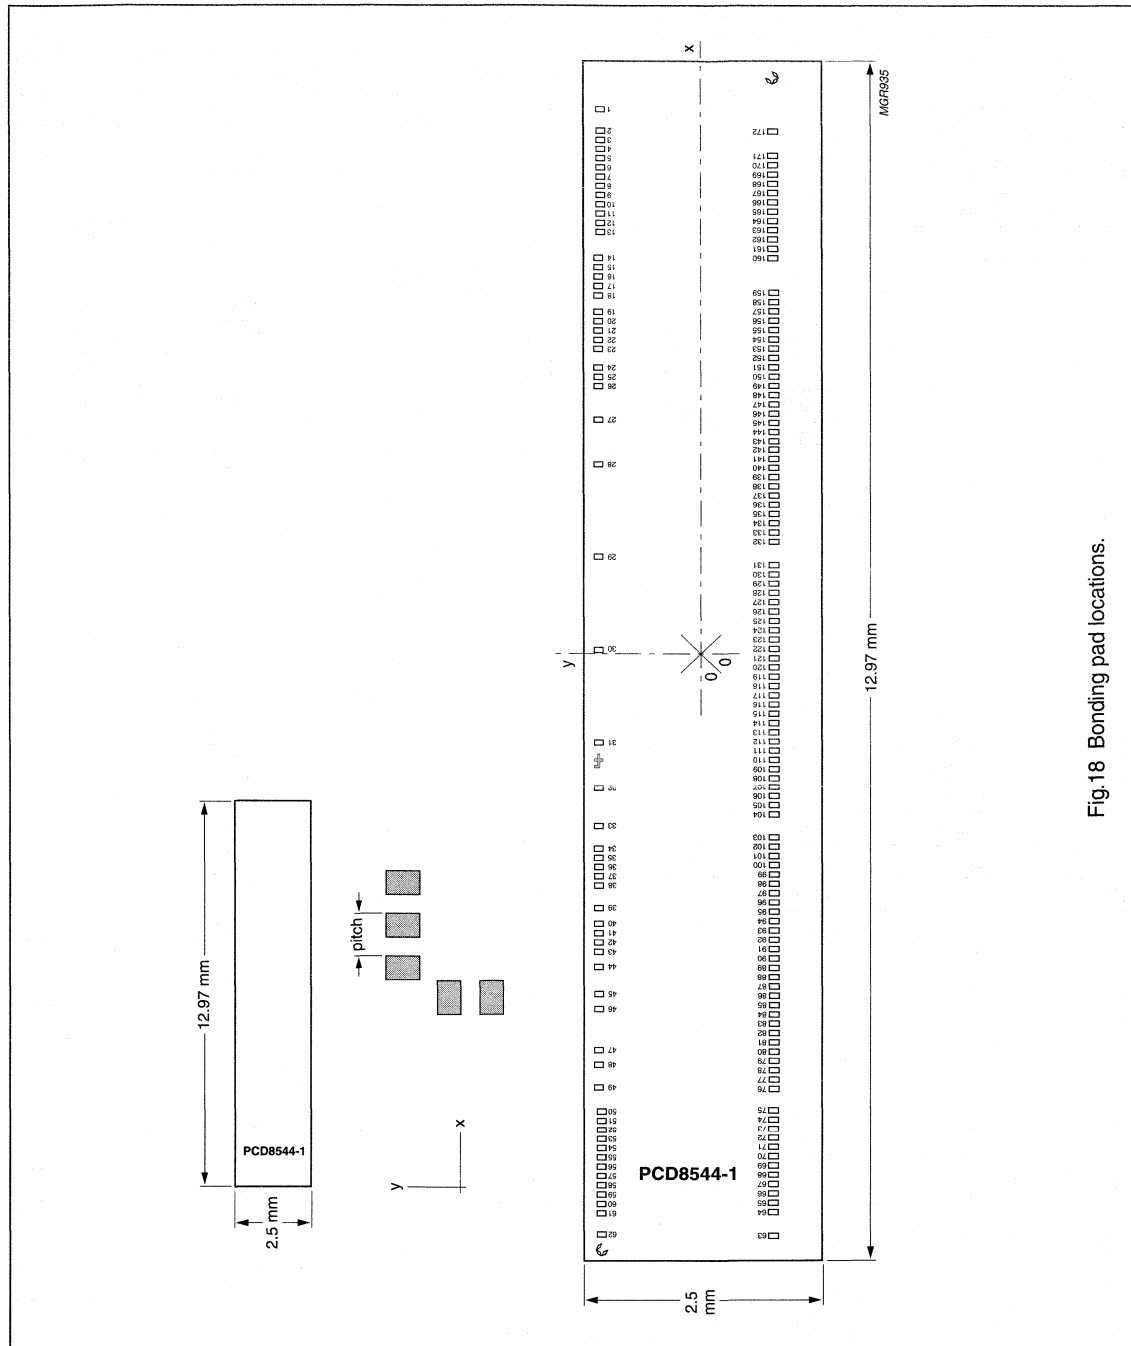

Fig. 18 Bonding pad locations.
14.1 Bonding pad information (see Fig.18)
of chip (see Fig. 18)